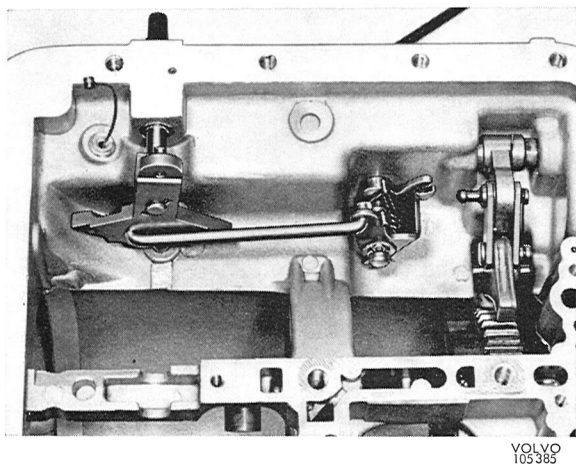
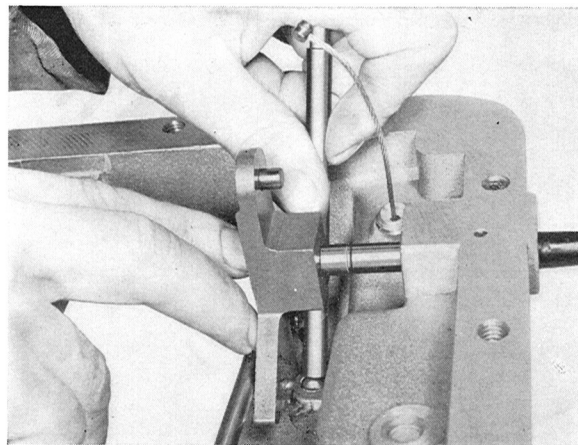

Fig. 4-103. Locating manual valve lever on detent ball spring
Fig. 4-104. Parking pawl and linkage installed
2. Assemble the shaft, parking pawl and levers in the reverse order to disassemble. Make sure that the springs for the levers are correctly installed, see Fig. 4-103. Installation of the detent ball is facilitated by pressing down the ball, using a short piece of tubing as shown in Fig. 4-104.